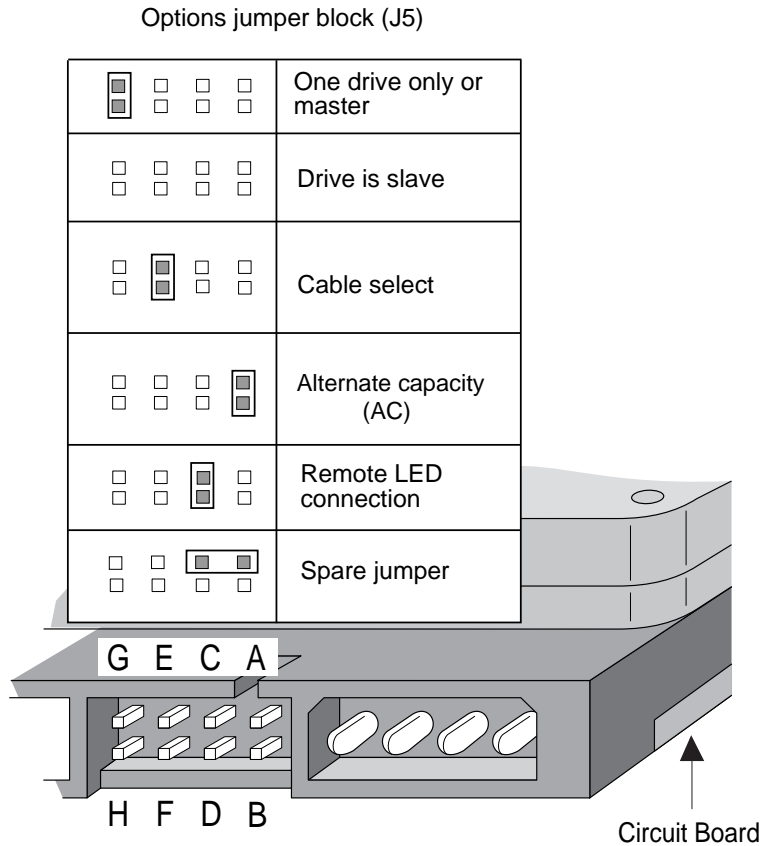

Figure 4. Configuration Settings
The jumper settings for these options are shown in Figure 4 on page 20.
- Install a jumper on pins E and F as shown in Figure 4 on page 20.